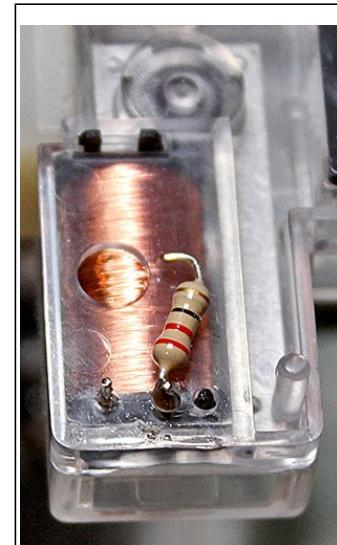

Fig. 11: Resistor soldered.
- Cut each lead  $\frac{1}{4}$ " beyond the bend. Orient the movement with the motor terminals closest to you, as shown in **Fig. 11**. Lay the resistor on the clear housing so the near lead bends toward the right. Use needle nose pliers to loop this lead around the right-hand motor terminal. Solder the resistor to the terminal. The other resistor lead should point toward the hole in the housing.